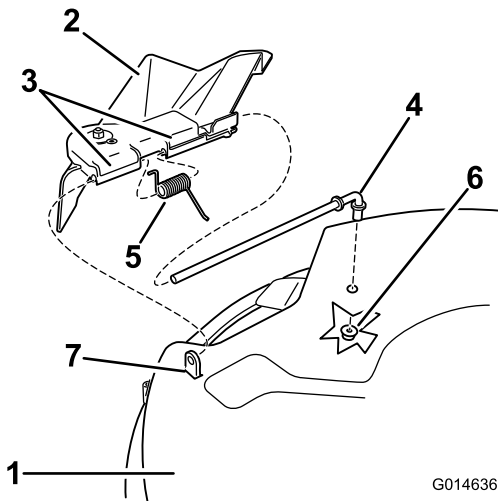

Figure 58
7. Insert rod at front of grass deflector into short stand-off on deck. Secure rear end of rod into the mower with a nut (3/8 inch) (Figure 58).
1. Locate items shown in Figure 58.
2. Remove the nut (3/8 inch) from the rod under the mower (Figure 58).
3. Slide the rod out of the short stand-off, spring, and grass deflector (Figure 58). Remove the damaged or worn grass deflector.
4. Replace the grass deflector (Figure 58).
6. Place the spring on the rod, with end wires down, and between the grass deflector brackets. Slide rod through second grass deflector bracket (Figure 58).